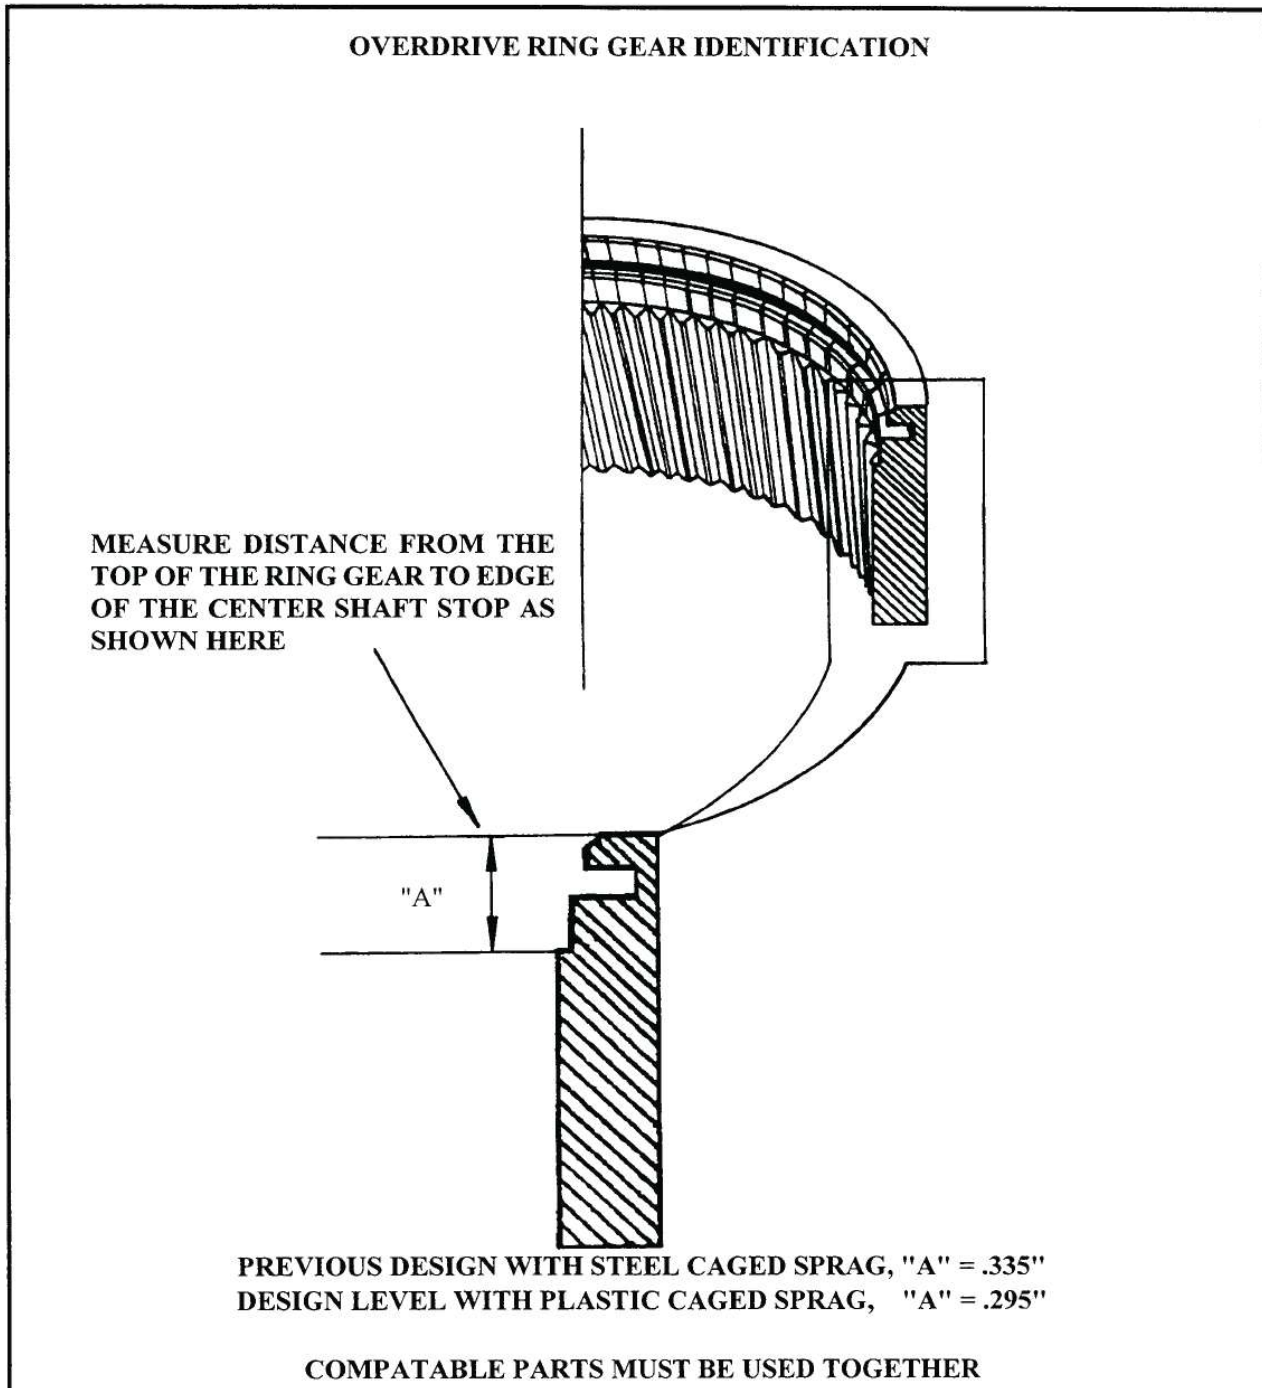

Figure 23
- (2) **OVERDRIVE RING GEAR** - Previous design ring gear must be used to accommodate the steel caged sprag and retaining washer that must be used. Measure the overdrive ring gear, as shown in Figure 23, to ensure you have the proper one.